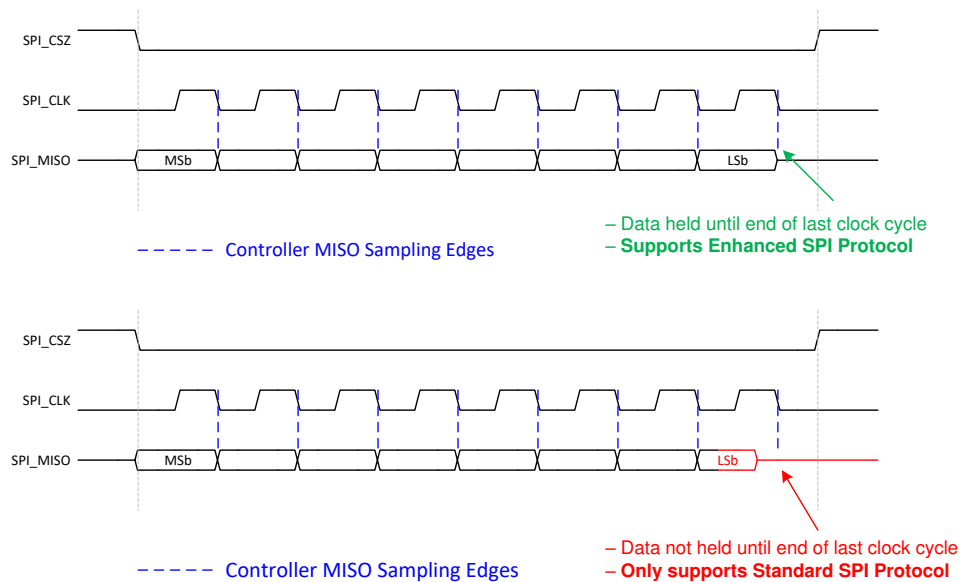

Figure 6-17. Requirement for Enhanced SPI Protocol
- (2) In most SPI applications, one clock edge is used by both master and slave devices for transmitting data while the other edge is used by both for sampling received data. This is referred to as *Standard SPI Protocol*. To maximize the SPI_CLK frequency potential, SPI masters can alternatively be setup to sample the data in (MISO) bit on the same clock edge used to transmit the next data out (MOSI) bit. This is referred to as *Enhanced SPI Protocol*. The DLPC7540 SPI master implementation supports both protocols (part of SPI interface configuration), however, to be able to use the "Enhanced SPI Protocol", the slave device must meet the requirement shown in Figure 6-17.